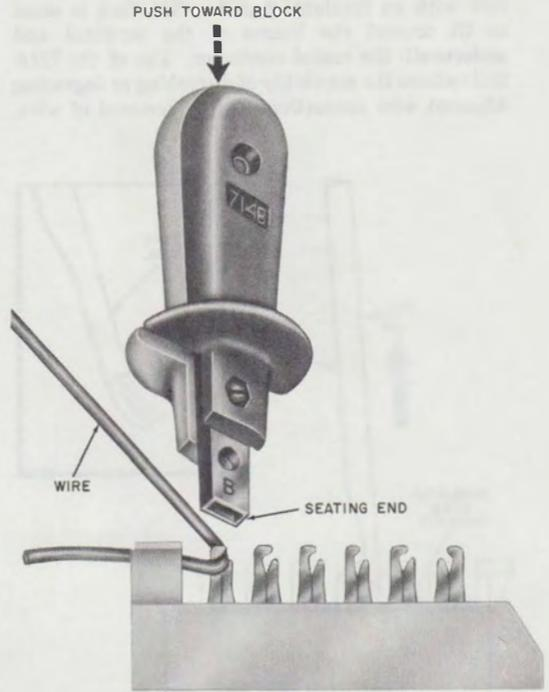

Fig. 5—Preparation for Looping Termination
3.05 To make a looping termination on a 66-type connecting block (Fig. 5 and 6), perform the following steps.
Note: Fig. 5, 6, 7, and 8 show a 714B tool; the D impact tool is used in the same way.
- (1) Select wire to be terminated.
- (2) Work wire into fanning strip.
- (3) Place wire in hook of terminal, using fingers or long-nose pliers.
- (4) Place seating end (cutting end of blade turned into handle) of 714B or D impact tool over terminal (Fig. 5).
- (5) Press tool toward block until wire is fully seated.